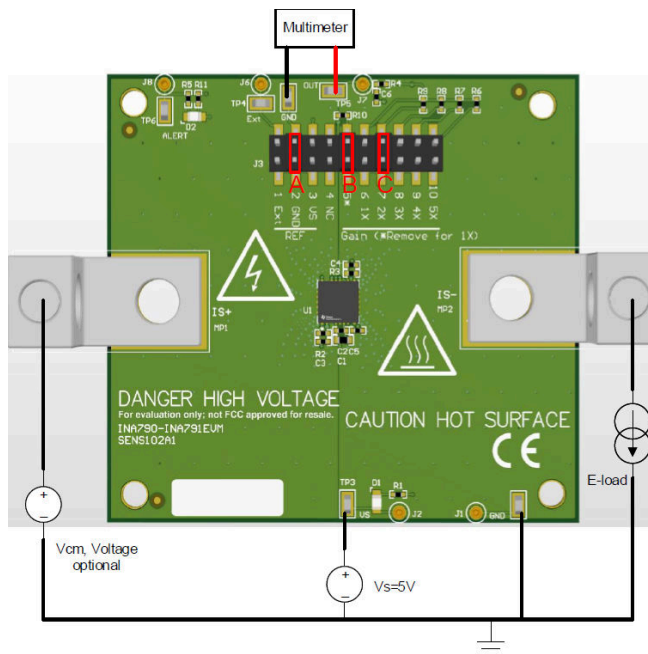

Figure 3-1. High-side Forward Current Setup
The INA790x features default gain 20mV/A. With an external adjustable gain resistor network, total gain (G) can range up to 400mV/A. Position 5 through 10 of header J3 allows the user to customize the adjustable gain, with two shorting jumpers B and C as shown in Figure 3-1. Configuration options provided by the EVM are shown in Table 2-1:
Positions 1 through 3 of header J3 allow the user to customize the REF pin voltage, V_{REF} , with shorting jumper A as shown in Figure 3-1. When using external reference, the voltage source can be connected through J6 or TP4. Configuration options provided by the EVM are shown in Table 2-2.
The following are instructions to set up and use the INA79xEVM. Figure 3-1 shows an example of a simple, high-side setup. The high voltage source for load is noted as V_{CM} . The low voltage DUT supply is noted as V_S . The shorting jumpers A, B and C are installed such that V_{REF} equals to GND and the DUT gain is 40mV/A.